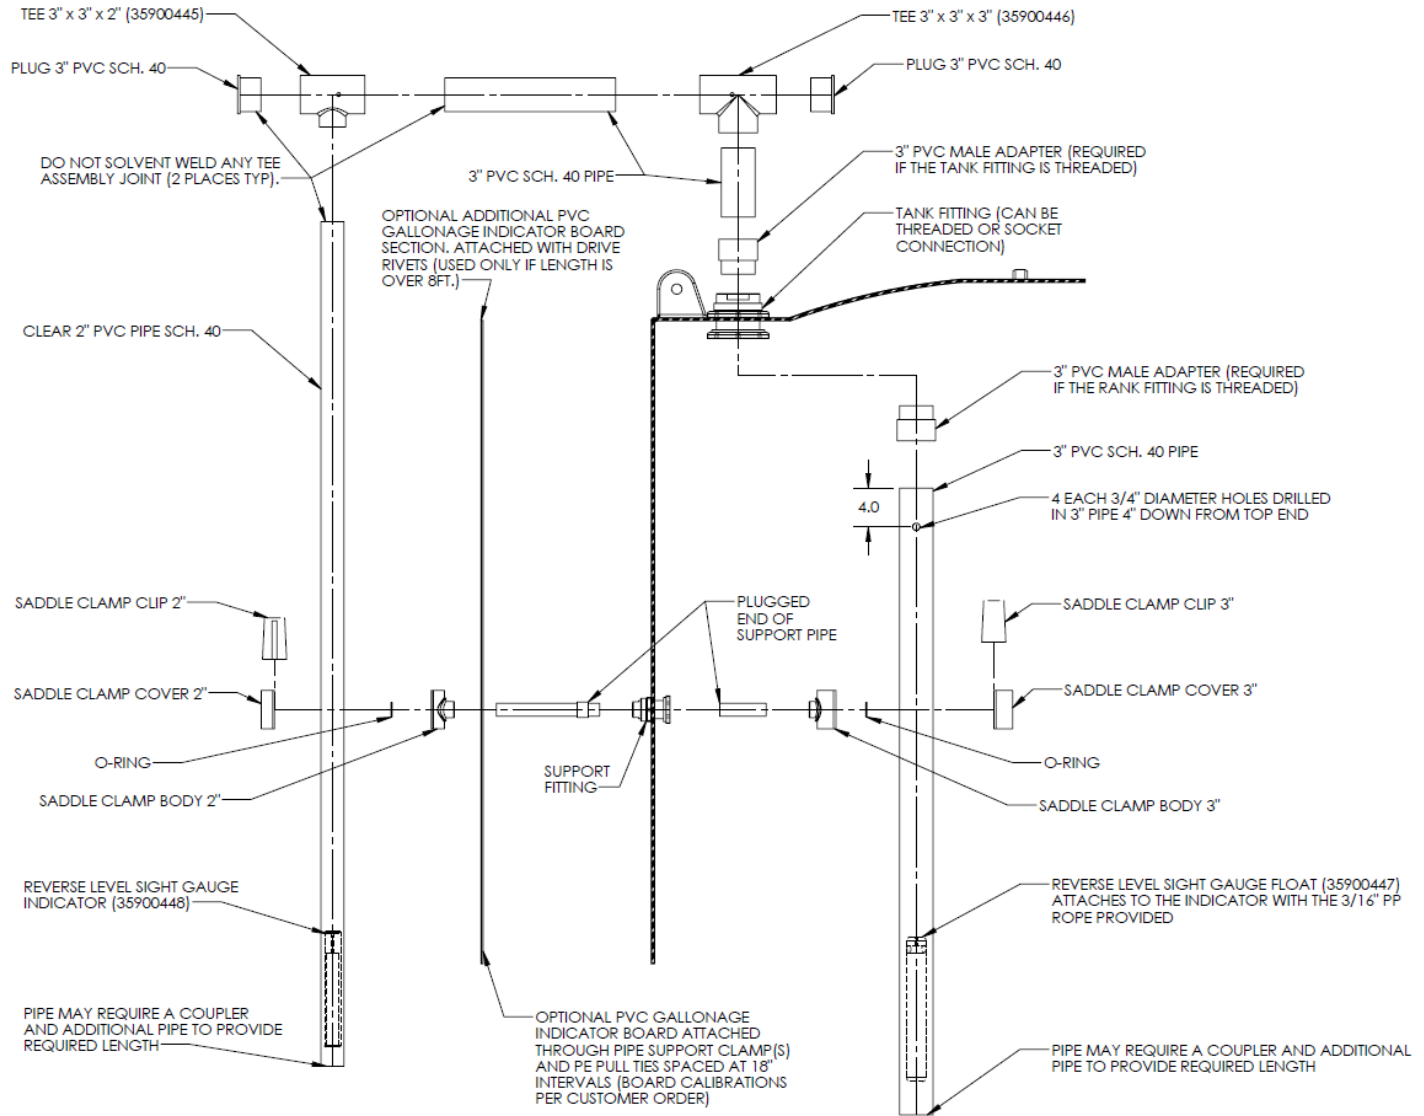

Figure 7.7
7.8.2 Assemble the piping loosely using Figure 7.7, the guidelines detailed below, and the customer approved tank drawing to ensure all parts are present and cut to length. As soon as all parts have been checked, assemble the parts with solvent weld cement and/or threaded connections as shown in Figure 7.7. NOTE - Do not use solvent weld cement on the outside joints indicated in Figure 7.7. SII recommends periodic inspection of the rollers in the tee assemblies and the rope to ensure proper operation of the gauge. If it is a requirement to seal these joints, a silicone based caulking should be sufficient.
7.8.3 Assemble and install the support structures as shown in Figure 7.7 (without the saddle clamp cover caps and clips). Make sure the support clamp orientation is correct (with the small width of the wedge toward the top of the tank) and that the plugged support pipes are installed with the plugged end as close to the support fitting as possible. Make sure that the indicator board has been installed over the outer pipe supports as shown in Figure 7.7. Assemble and install piping as per the customer approved drawing. As piping is being installed on the tank, lock it in place with the saddle clamp cover caps and clips provided (make sure that the sealing o-ring is in the proper position as the pipe is positioned into the saddle support body). Seal all threaded pipe connections with Teflon pipe sealant and connect solvent weld sockets with the correct solvent cement (except the joints as noted in Figure 7.7).